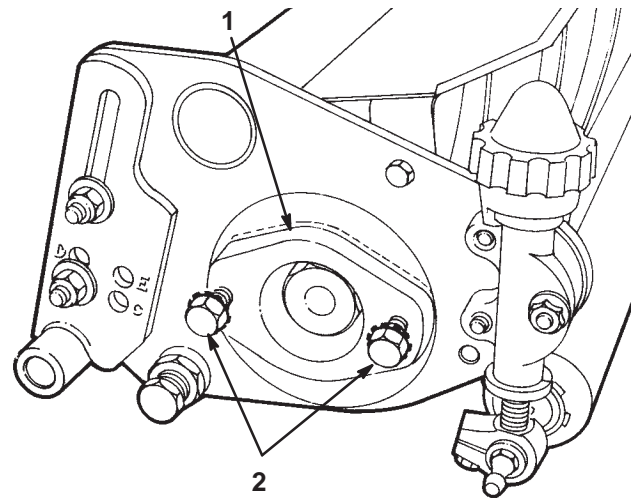

Figure 18
3. Remove the mounting bolts from the bearing housing at both ends of the cutting unit (Fig. 18).